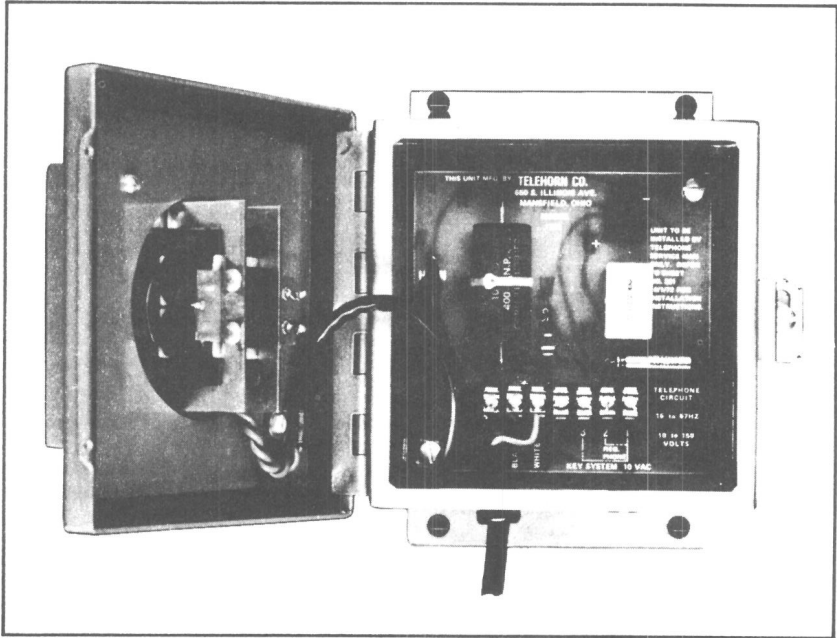

FIGURE 2. The Telehorn Showing Interior and Terminal Strip
2.03 After securing the unit to a solid surface, run the inside wire to the right side of the unit. The wire should enter through the opening provided on the right side. Connect wiring as shown in Table A and Figure 2.